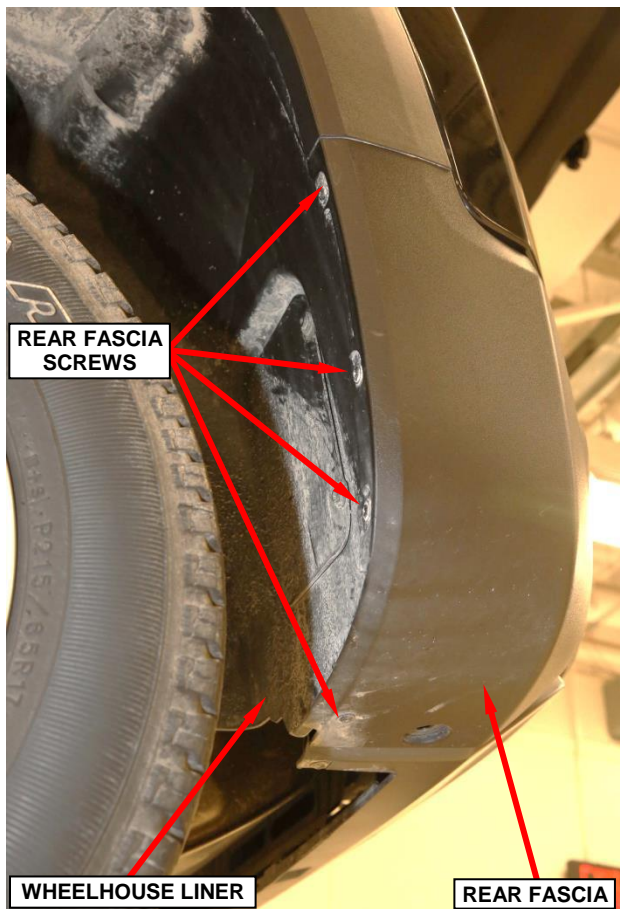

Figure 6 – Wheelhouse Fascia Screws
8. Remove the four screws securing the wheelhouse liner to the rear fascia on the left and right sides of the vehicle (Figure 6).
23. Install the four screws securing the wheelhouse liner to the rear fascia on the left and right sides of the vehicle. Tighten the screws securely (Figure 6).